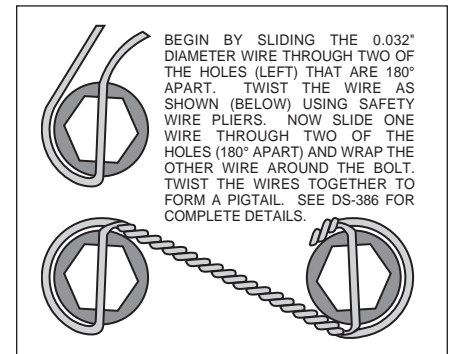

Figure 2. Safety Wire Diagram
• **NOTE:** When cross-drilled bolts are supplied with the rotor bolt kits, the additional step of safety wiring bolts is recommended. Safety wire bolts using standard 0.032 inch diameter stainless steel safety wire as shown in Figure 2. Please refer to Wilwood's data sheet DS-386 (available at www.wilwood.com/Pdf/DataSheets/ds386.pdf) for complete safety wire installation instructions.
• Install the hub assembly (9, 10 and 11, pre-assembled) from the larger I.D. side of the rotor onto the rotor adapter (4) by sliding the eight studs through the corresponding eight holes in the rotor adapter (4) Secure from the other side using nut (12) and torque to specification.